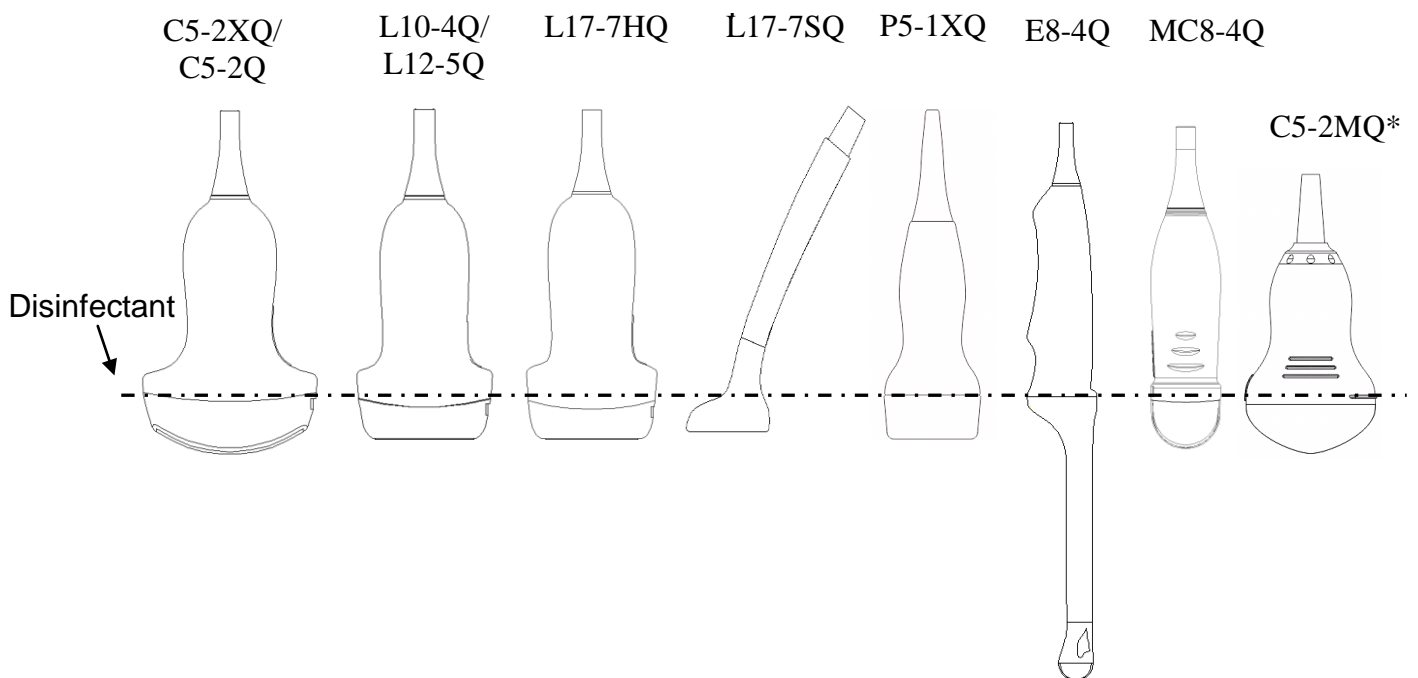

Figure 6-2 Depth of the Transducer Immersed into Disinfectant
2. Place the cleaned and dried transducer in contact with the disinfectant (refers to figure 6-2 for the contacting area) for the time specified by the disinfectant manufacturer.
9. Patient contact area should be immersed into the solution while using the immersion method, but should not exceed the depth shown in figure 6-2.